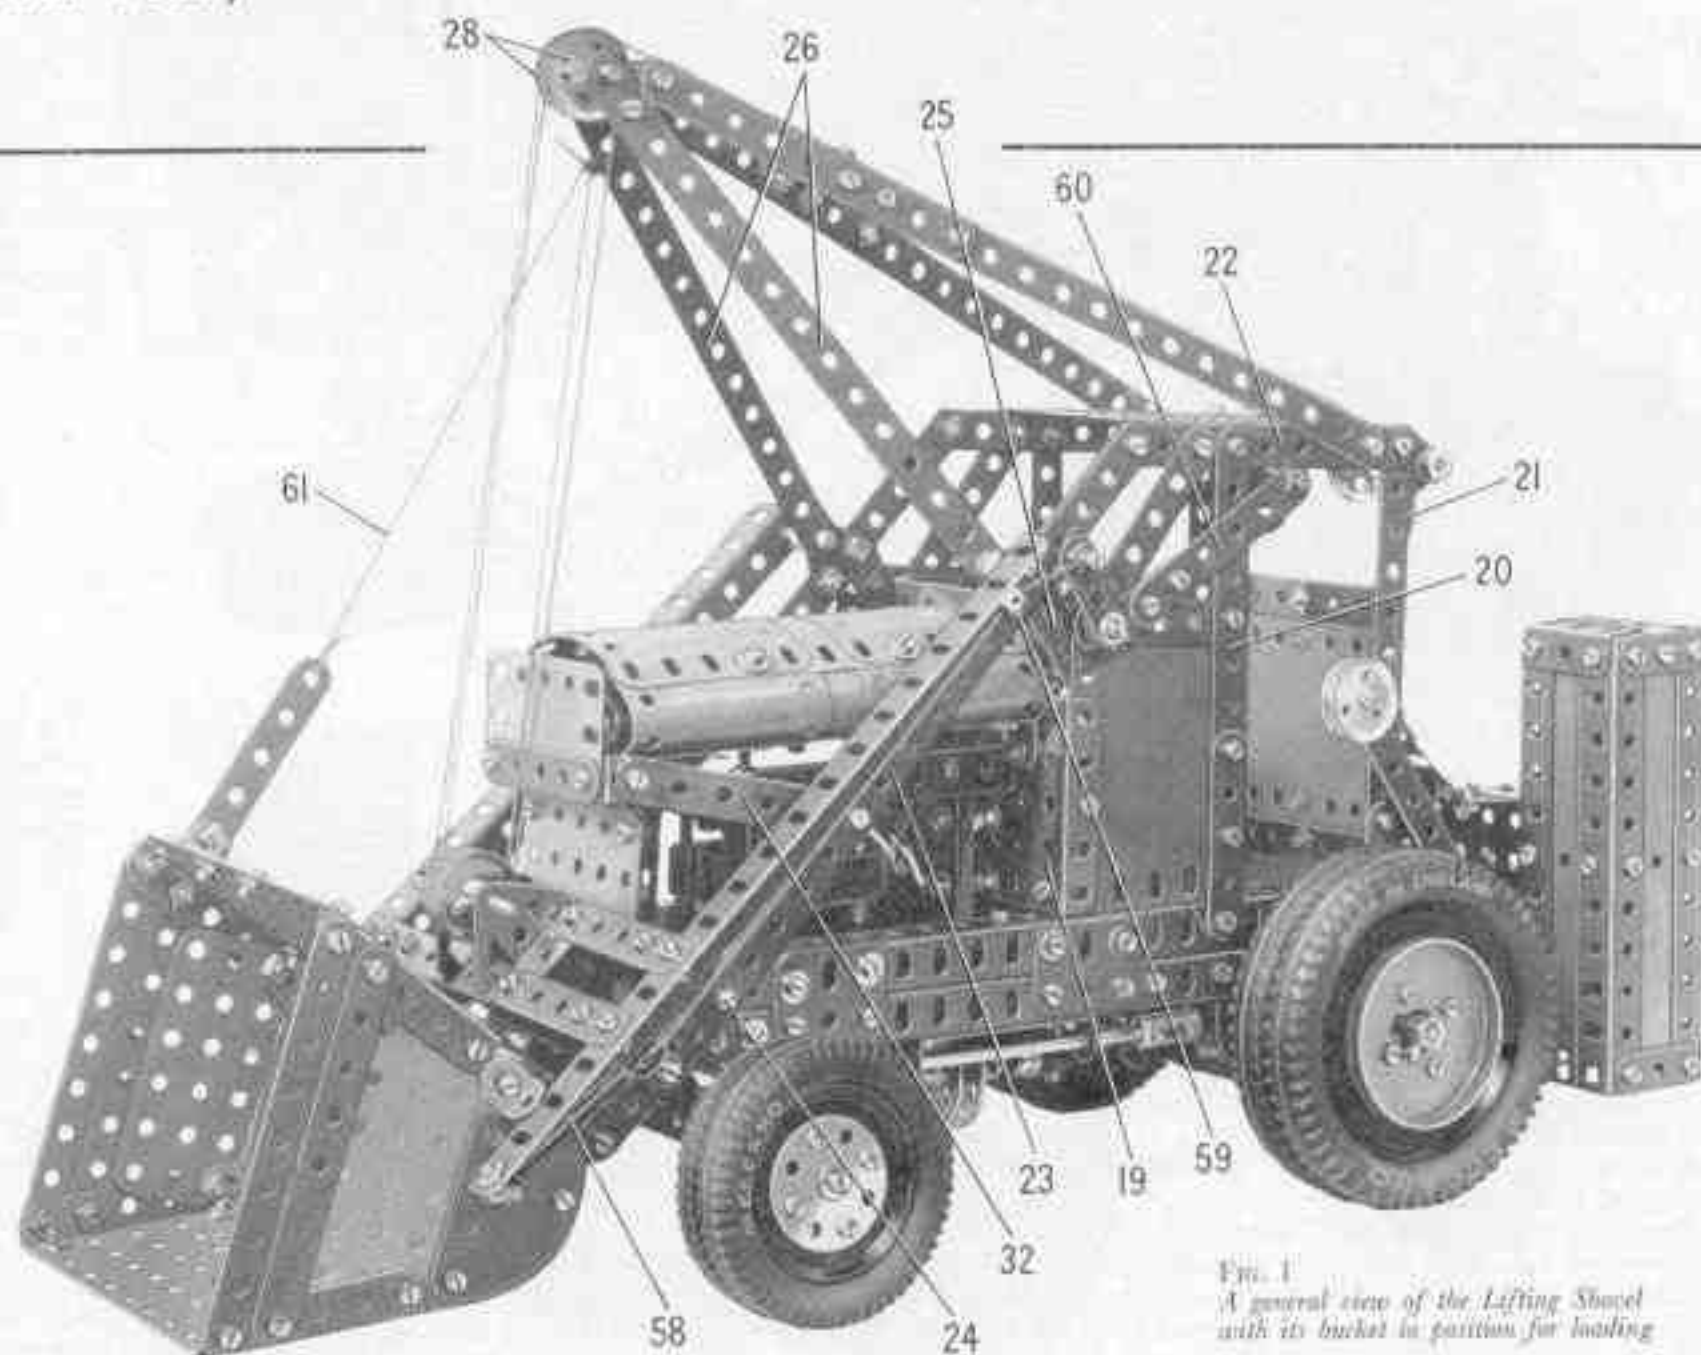
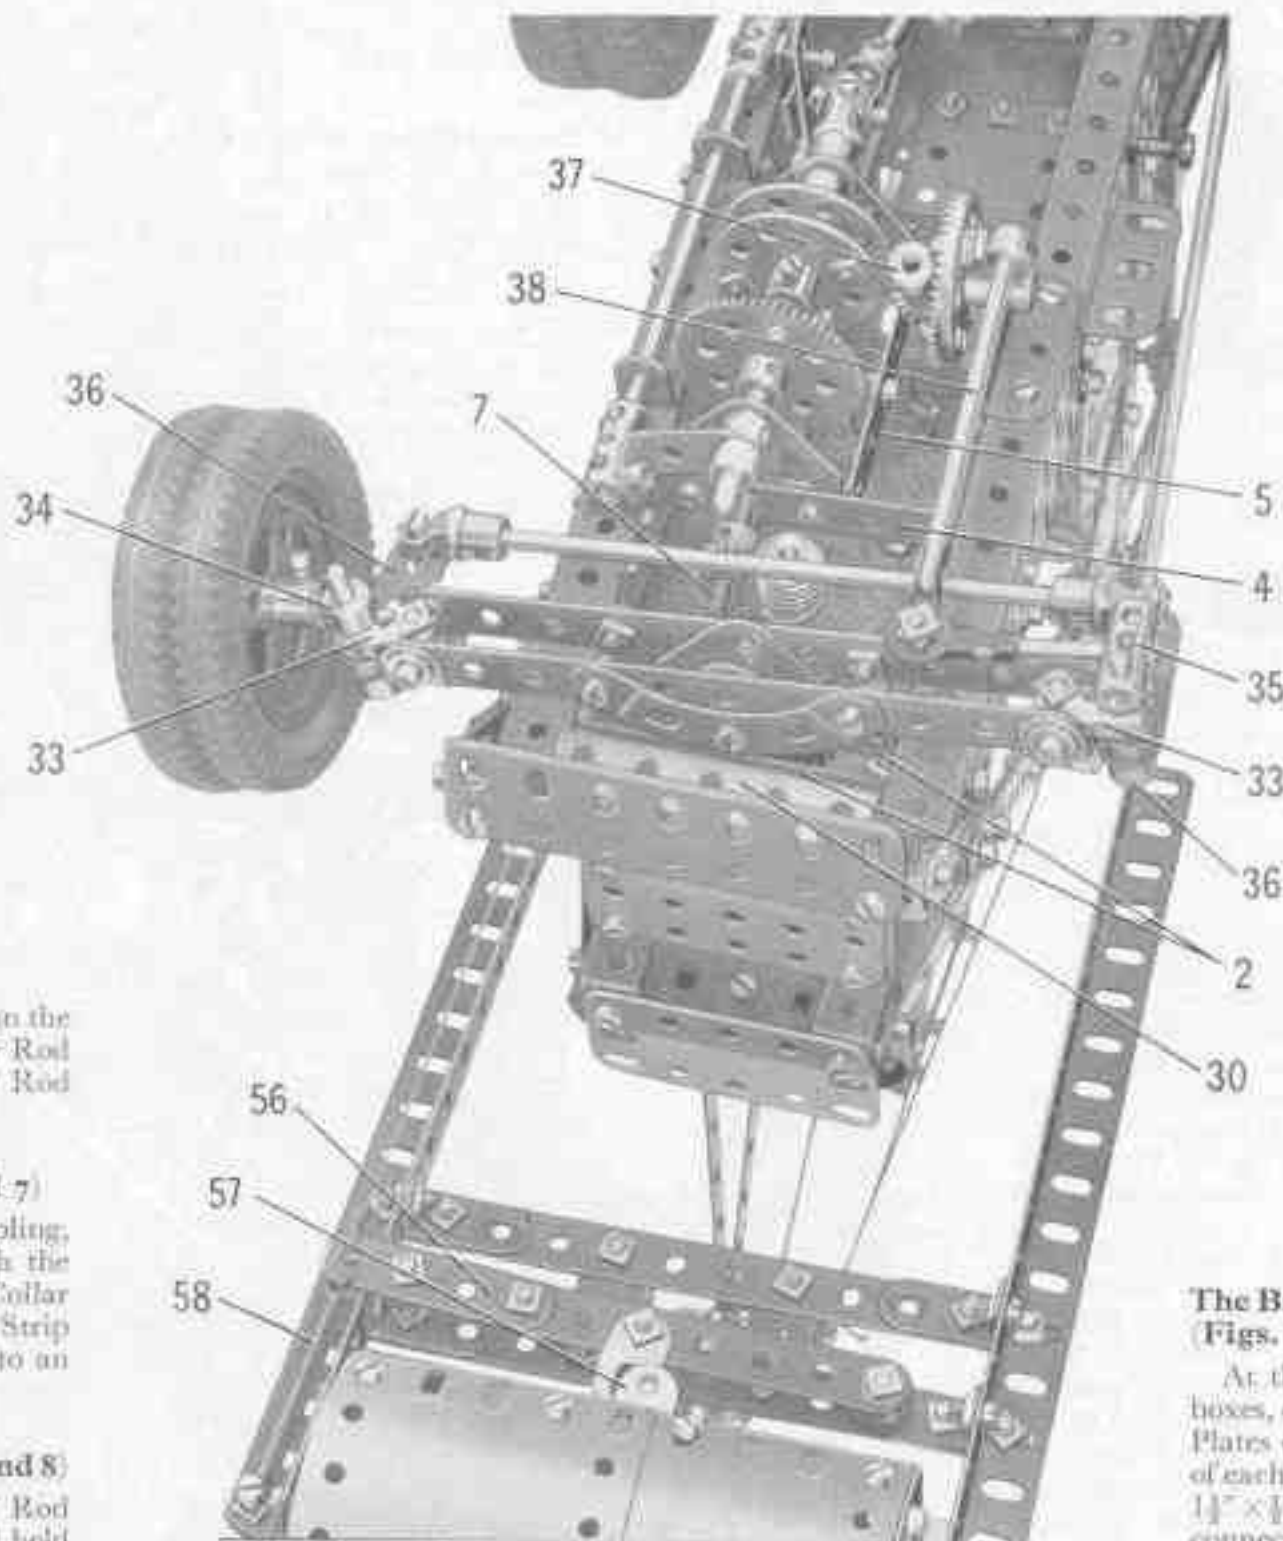

FIG. 1
FIG. 5. A front and end view showing the pivoted front axle beam and details of the steering mechanism.
to which a  $1" \times \frac{1}{2}"$  Angle Bracket is attached by means of a  $\frac{1}{4}"$  Bolt. The slotted hole of the Angle Bracket is passed over the  $2\frac{1}{2}"$  Rod as shown (Fig. 5), and a Collar is fixed on each side of it.
The cab front is made by bolting a 3 1/2" x 2 1/2" Flanged Plate (19) (Fig. 1) to a 3 1/2" Angle Girder fixed across the chassis. A 3 1/2" x 2 1/2" Flexible Plate is attached to each flange of the Flanged Plate, and is edged at the top by a 2 1/2" Strip and along its rear edge by a made-up strip (20), formed from a 5 1/2" and a 2 1/2" Strip overlapped four holes.
### Details of the Jib (Figs. 1, 4 and 7)
### Assembly of the Bonnet and Radiator (Figs. 1, 2, 4 and 7)
The front axle beam, which is pivoted, consists of two 5 1/2" Strips, with a Coupling (33) (Fig. 5) fixed between them at each end. The Coupling is attached to each Strip by a bolt, which carries a Washer and passes through the lug of a Double Bracket and through an end hole of the Strip. A second Washer is placed on the bolt and it is then screwed tightly into the Coupling. A 1/2" Bolt is passed through the centre portion of the Double Bracket and a Washer is placed on it before it enters the Coupling. A nut is screwed tightly on the Bolt to fix the Coupling and the Double Bracket firmly together.
The lower end of the Rod is supported in a Coupling (37) (Fig. 5) which is fixed on a 1" Rod and is spaced from a  $1\frac{1}{2}$ " Contrace by three Washers. The Contrace is free to turn on the Rod, which is then held by a Collar in a Trunnion bolted to the chassis. A  $\frac{1}{2}$ " Pinion on the steering column engages the Contrace.
#### The Balance-weight Boxes and Winch Cover (Figs. 1, 4 and 7)
A catch (56) is formed by a 4½" Strip extended one hole by a 2" Strip (Fig. 5). The catch pivots on a ½" Bolt passed through the shovel arm. A 'spider' from a Swivel Bearing is placed on the Bolt, which is then fixed by two nuts in a hole at one end of the catch. A Fishplate bolted to the catch engages an Angle Bracket (57) fixed to the back of the shovel. A Spring (58) (Fig. 1) is fitted between the free end of the catch and one side of the shovel arm.
#### Arrangement of the Cords (Figs. 1 and 7)
#### Details of the Shovel Arm and Shovel (Figs. 1, 7 and 9)